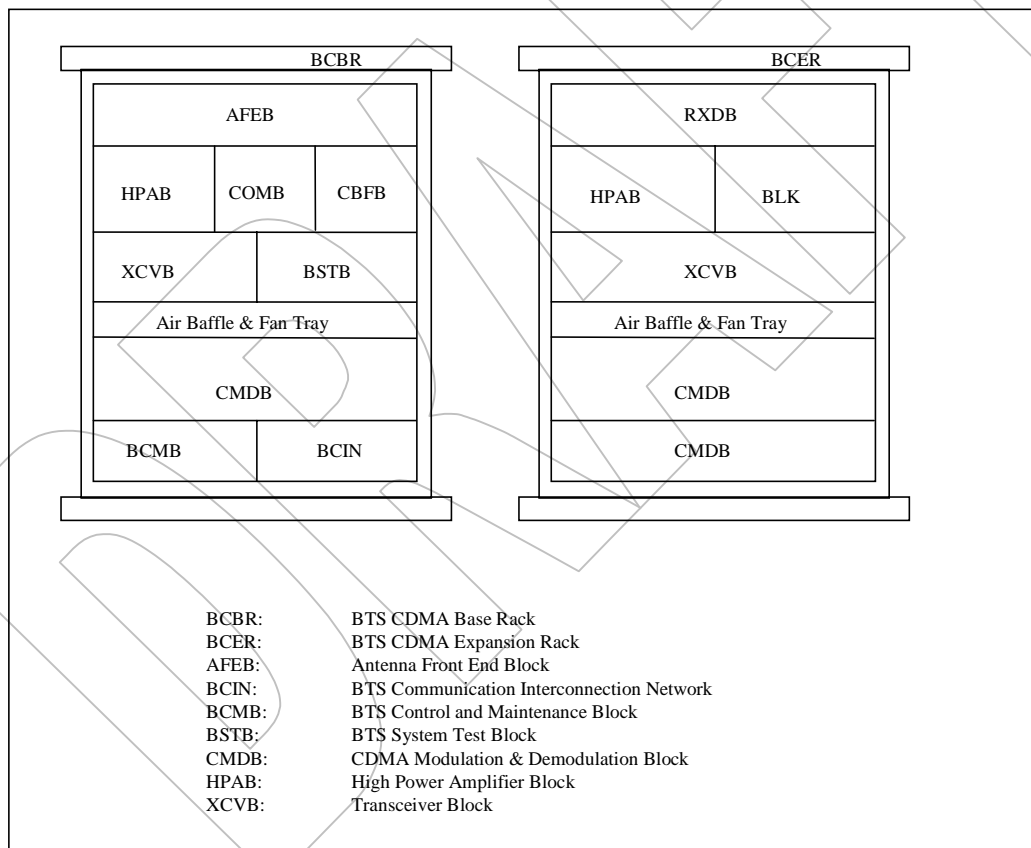

Figure 2.3 Maximum Rack Configuration for Samsung Omni BTS
- Figures 2.3 and 2.4 show the maximum rack configuration for Samsung omni and three sector BTSs.